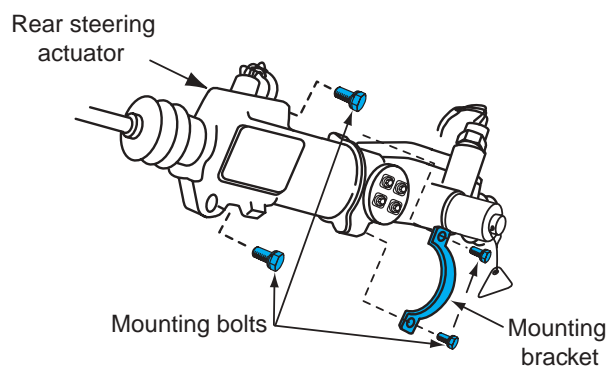

Figure 13-22 Installing the rear steering actuator, mounting screws, and bracket.
1. Install the rear steering actuator and the four mounting bolts and bracket. The arrow on the bracket must face upward (Figure 13-22).